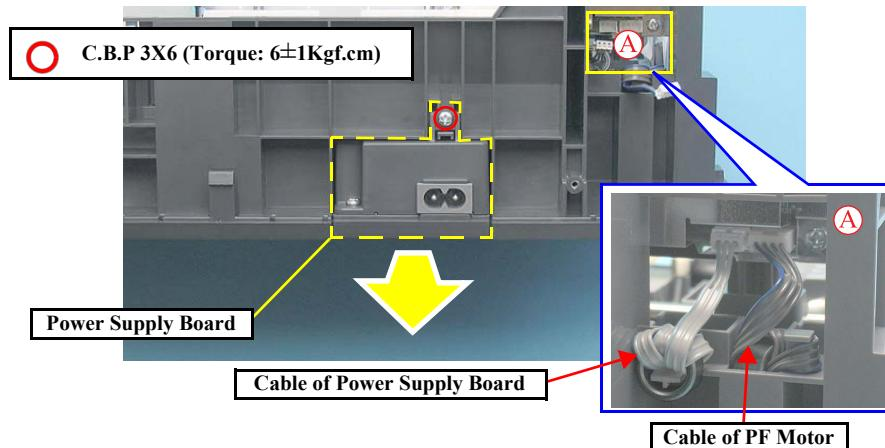

Figure 4-45. Removing Power Supply Board (2)
When installing the Power Supply Board, arrange the cable into the slit ①, ② and place the ferrite core into the hook in the area A of Figure 4-45 (p.53).